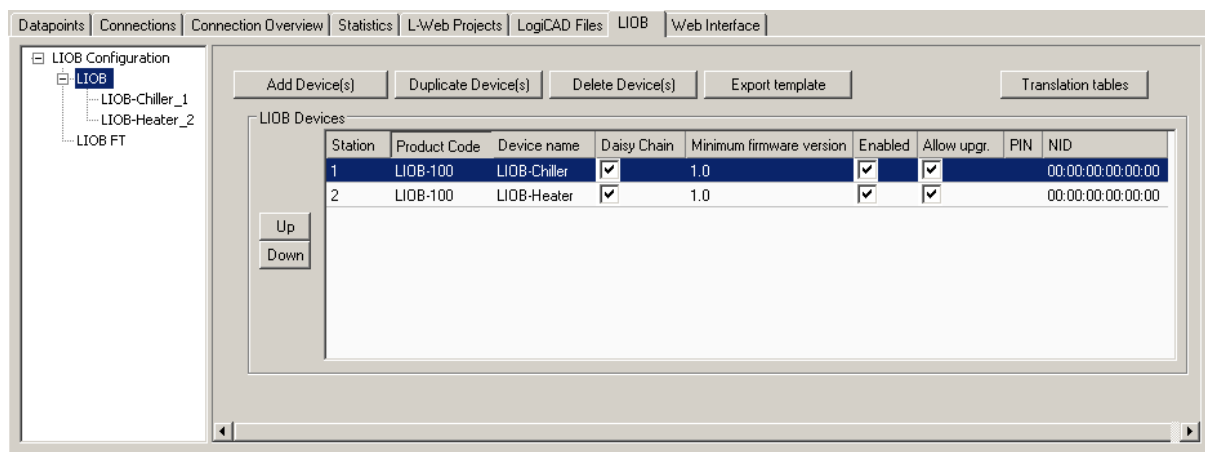

Figure 45: Add L-IOB devices to the LIOB Connect bus.
1. Add L-IOB devices on the **LIOB** tab from the supplied L-IOB templates using the **Add Device(s)** button as shown in Figure 45.